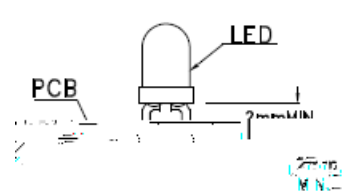
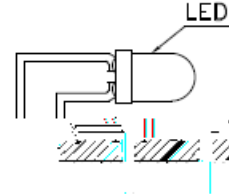

Fig. 6
Fig. 5
1. Maintain a minimum of 2mm clearance between the base of the LED lens and the first lead bend (Fig.5 and Fig.6).